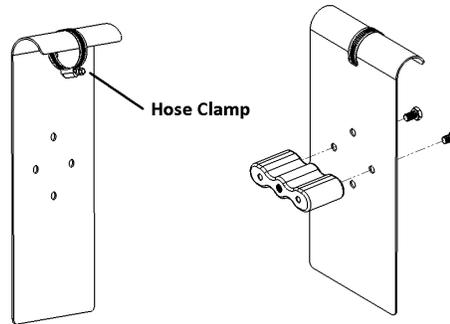

Figure 34
Step 1 – Wrap the RZR Mounting Plate around the bar and use to hose clamp to stabilize the Mounting Plate on the bar (see **Figure 34**).